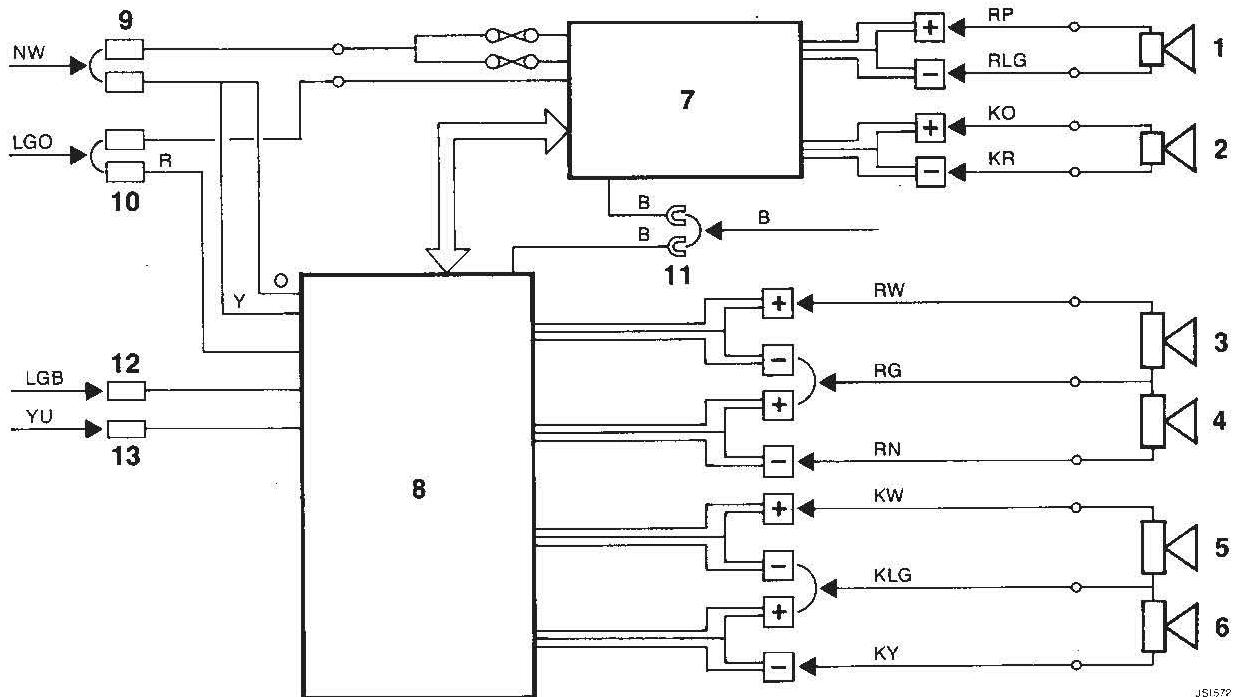

FIG 4.
Key to Fig 4
1. Using a resistance meter, probe the connections on the radio/cassette player between each speaker cable pair to find the two cables, one from each pair which are internally connected. Either of these two cables can then act as the vehicle loudspeaker system common return (Fig 4, colour codes RG and KLG).
4. Connect the speaker cables as shown in Fig 4, using suitable connections.
5. Connect the bass speaker cables to the amplifier as shown in Fig 4, using suitable connections.
6. Using suitable connections connect the power and earth leads as shown in Fig 4.